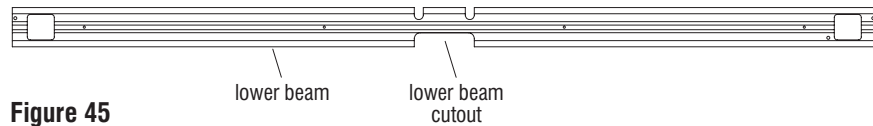

Figure 45
- The beam intermediate leg reinforces the beam under the primary top horizontal extrusion of the beam assembly and enters the beam through the lower beam cutout in the bottom of the horizontal lower beam. Intermediate legs are always centered lengthwise on the beam (Figure 45).